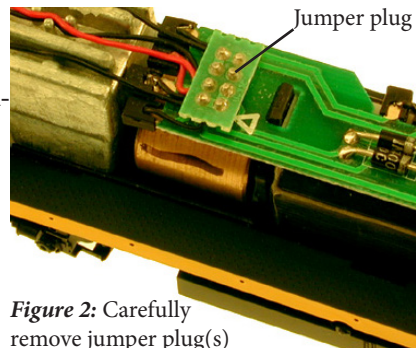

Figure 2: Carefully remove jumper plug(s)
2. Remove the jumper plug/s from the locomotive's DCC ready socket. **(Figure 2)** The jumper plugs allow the loco to operate on a standard DC track or in analog mode on a DCC track.